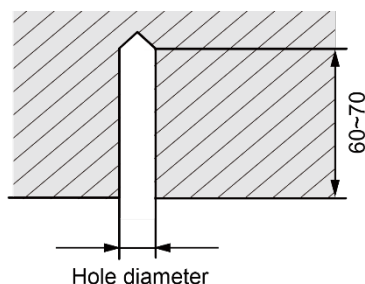

Fig.4.1.2
- (1) Drill 4 holes according to the hole on the supporter; diameter of drilling hole is according to the diameter of expansion bolt and the depth is 60-70mm, as shown in Fig.4.1.2.